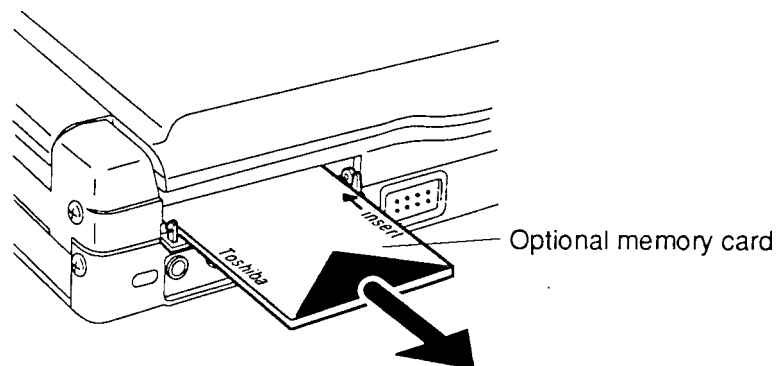

Figure 4-3 Removing the optional memory card
5. Grasp the **optional memory card** and pull it completely out (figure 4-3).
1. The top of the **optional memory card** is marked with the word “insert” and an arrow pointing toward the connecting edge. Turn the memory card so that it is facing up and carefully insert the connecting edge (arrow first) into the slot. Push gently to ensure a firm connection (figure 4-3).